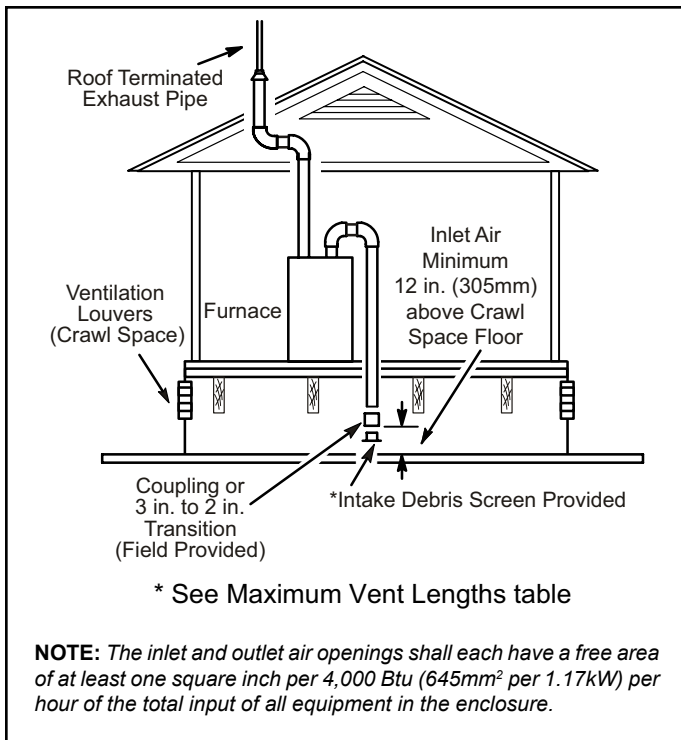

Figure 32. Equipment in Confined Space (Inlet Air from Ventilated Crawlspace and Outlet Air to Outside)
2. If intake air is drawn from a ventilated attic (Figure 31) or ventilated crawlspace (Figure 32) the exhaust vent length must not exceed those listed in Table 5C. If 3" diameter pipe is used, reduce to 2" diameter pipe at the termination point to accommodate the debris screen.